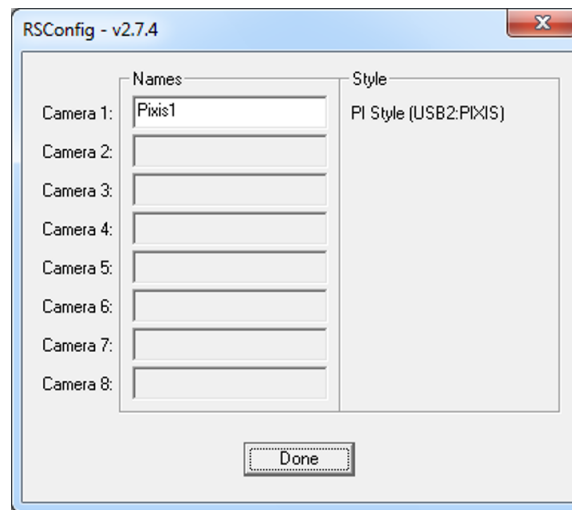

Figure 63: RSConfig Dialog Box
2. The *RSConfig* utility is shown in Figure 63 below. If your camera's drivers have been properly installed and the camera is plugged in and turned on, it will show up under the list of cameras. Feel free to keep the default name ("Camera1") or change it to something of your choosing. After you are finished choosing a name, simply click "Done" and your camera will be ready for use with *Synopticx*.